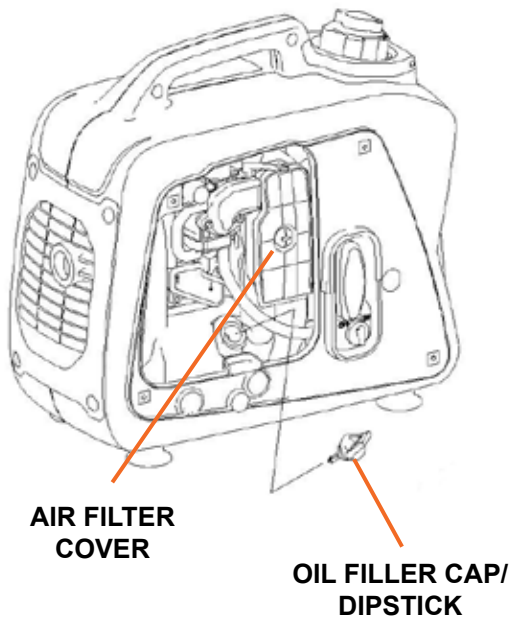

Figure 6
3. Remove the oil filler cap/dipstick. (see Figure 6)